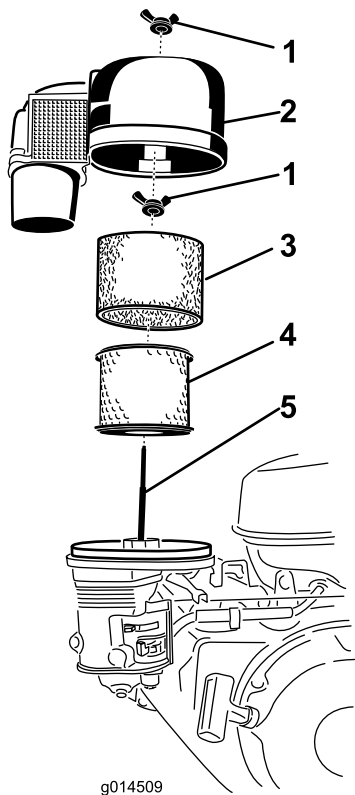

Figure 15
1. Remove the wing nut and lift off the cyclone filter with the air filter cowl (Figure 15).